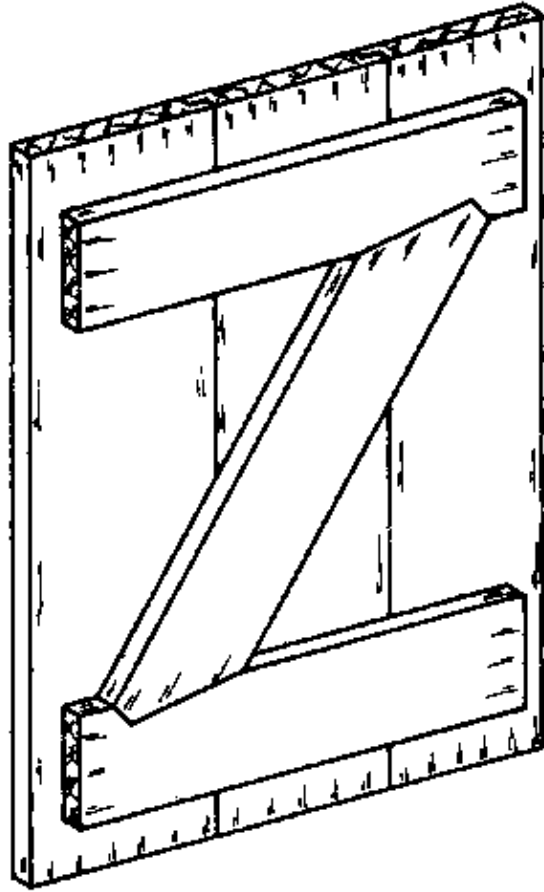

Fig. 2
– Ledged, braced and battened casements (Fig. 2)